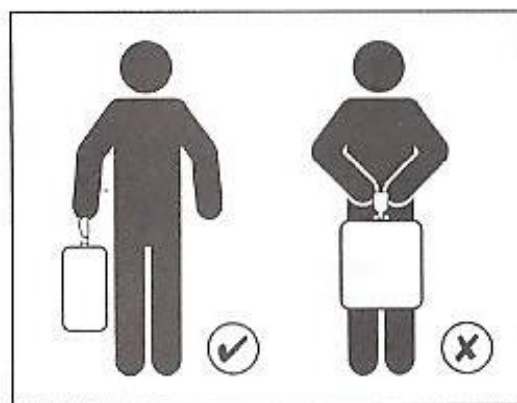

Figure 1
- When measurement is complete, lower the luggage in the reverse manner you lifted. (Figure 1 shows the correct lifting method)